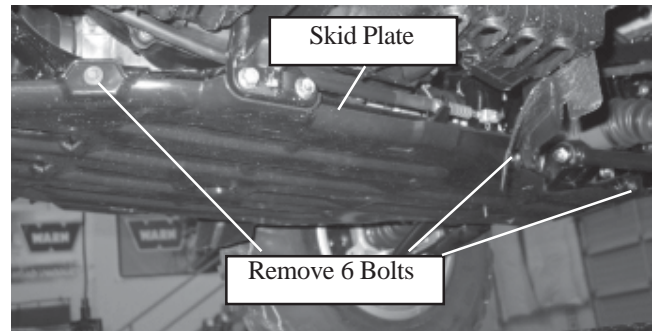

Figure 2
2. To install the plow mount to the underside of the vehicle, remove the factory skid plate. This will require the use of a 10mm socket, as shown in Figure 2.